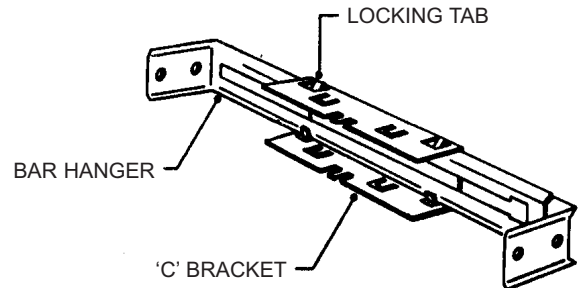

FIG. 3
2. Assemble other bar hanger to fixture by placing in "C" bracket and prying locking tabs on "C" bracket against bar hanger.(FIG. 3)
5. Position fixture and lock in place by prying locking tabs on "C" bracket against bar hanger. (FIG. 3)